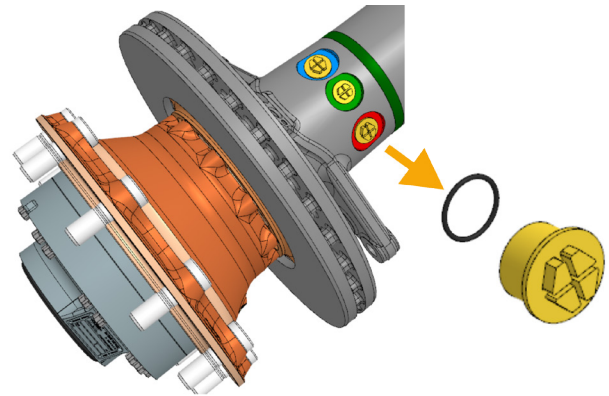

Fig. 1: Hydraulic connection - protective plug
- When removing the protective plugs before connecting the hydraulic lines, make sure that no hydraulic oil can leak. See „Fig. 1: Hydraulic connection - protective plug“ on page 5